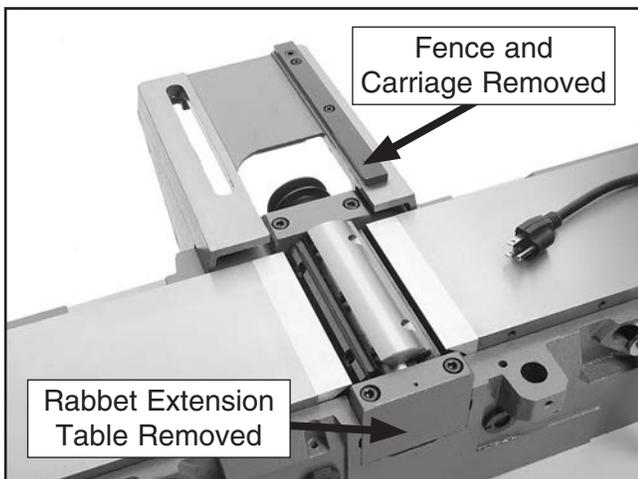

Figure 3. Example of a typical jointer disassembled from **Steps 1–5**.
5. Lower both beds to make enough room for the cutterhead to come out, as shown in **Figure 3**.